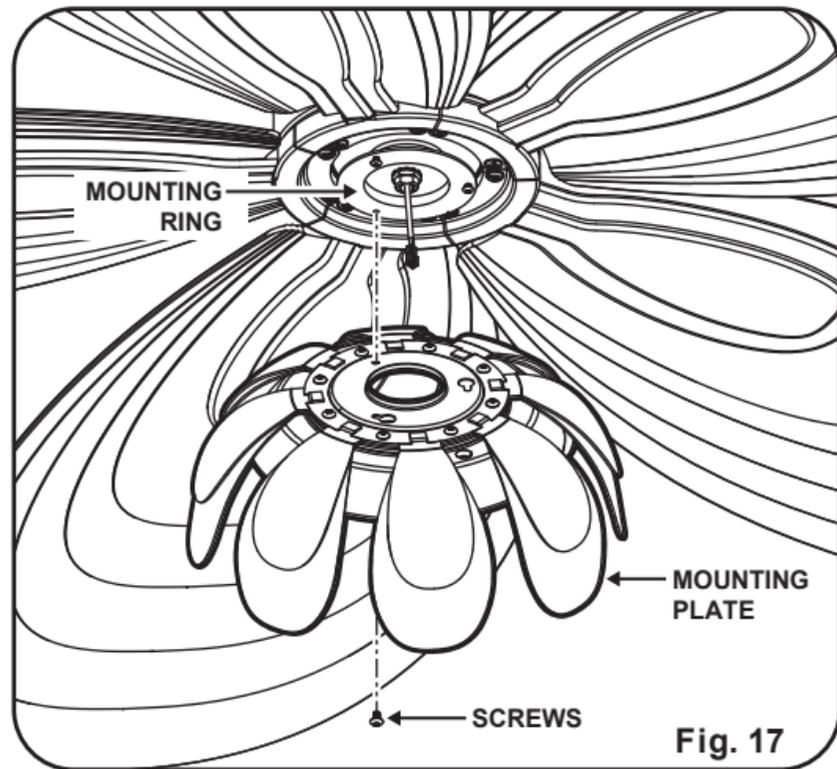

Fig. 17
Step 2. Raise the mounting plate up against bottom of the mounting ring. Place the key holes on the mounting plate over the two screws previously loosened from the mounting ring. Turn the mounting plate until the mounting plate locks in place at the narrow section of the key holes. Secure by tightening the 2 screws previously loosened and the one previously removed. (Fig. 17)